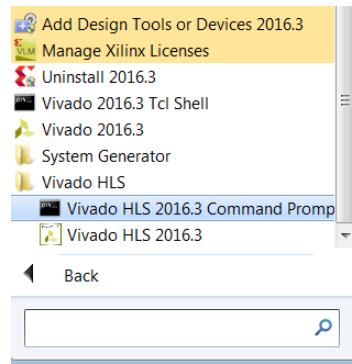

Figure 7-1: Vivado HLS Command Prompt
- On Windows use **Start > All Programs > Xilinx Design Tools > Vivado 2017.4 > Vivado HLS > Vivado HLS 2017.4 Command Prompt** (Figure 7-1).